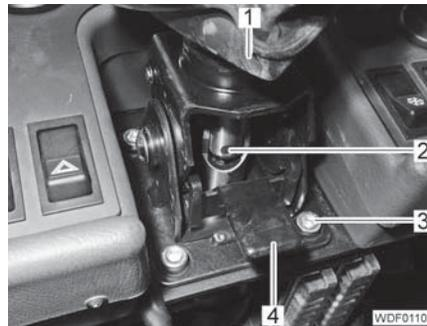

Fig. 388 Steering column attachment
- Carefully pull the bellows (Fig. 388,1) upwards over the lever (Fig. 388,4).
- Unscrew the 4 screws (Fig. 388,3).
- Carefully remove the steering column (Fig. 388,2) upwards.
- Carefully set down the steering column (Fig. 388,2) from above.
- Screw in and tighten the 4 screws (Fig. 388,3).
- Carefully pull the bellows (Fig. 388,1) downwards over the lever (Fig. 388,4).